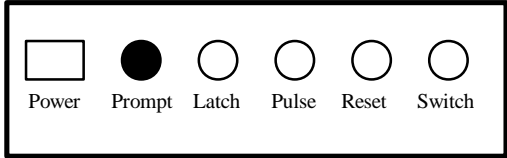

Figure 3
1. The **PROMPT** jack on the back of the Counter/Controller will provide switch closures at time intervals established by the user (see Page 3). If a timed prompt from a voice output device or other switch-activated source is needed for the counting session, attach the appropriate device to the **PROMPT** jack (Figure 3).